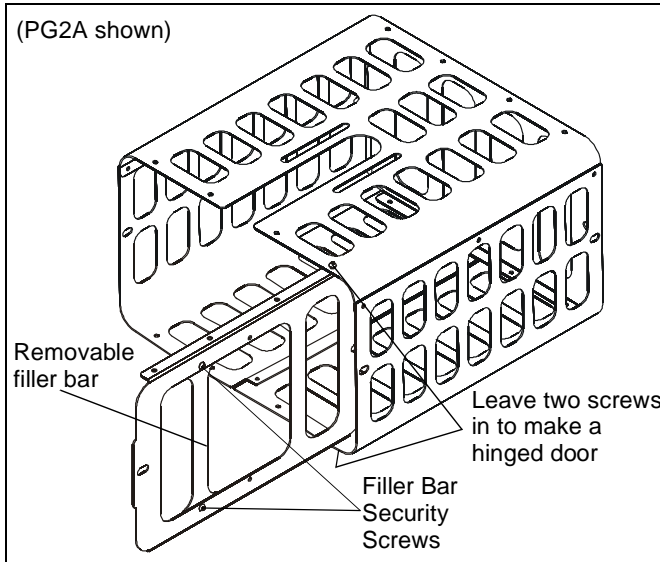

Figure 5
1. Remove and keep the security screws from the top and bottom of the front except for the two screws on the right side of the projector guard. (See Figure 5)
- Place projector inside the projector guard (See Figure 5)